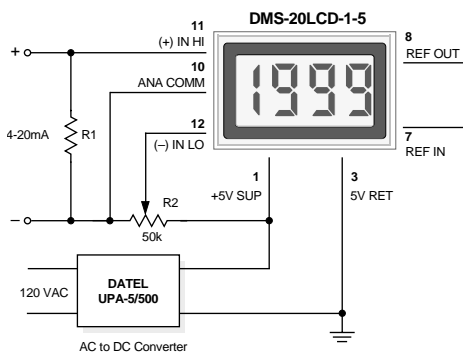

Figure 7. 4-to-20mA Current Loop Operation (5V-Powered Models)
**5. Process Control (4-to-20mA) Measurements:** In many common process-control applications, a 4-to-20mA current loop is used to transmit information. Because DMS-20LCD meters have such high input impedance, a simple shunt resistor across the meter's input can be used to convert the loop current to a voltage. See Figure 7. The value of the shunt resistor is a
To calibrate the circuit of Figure 7, perform the following: